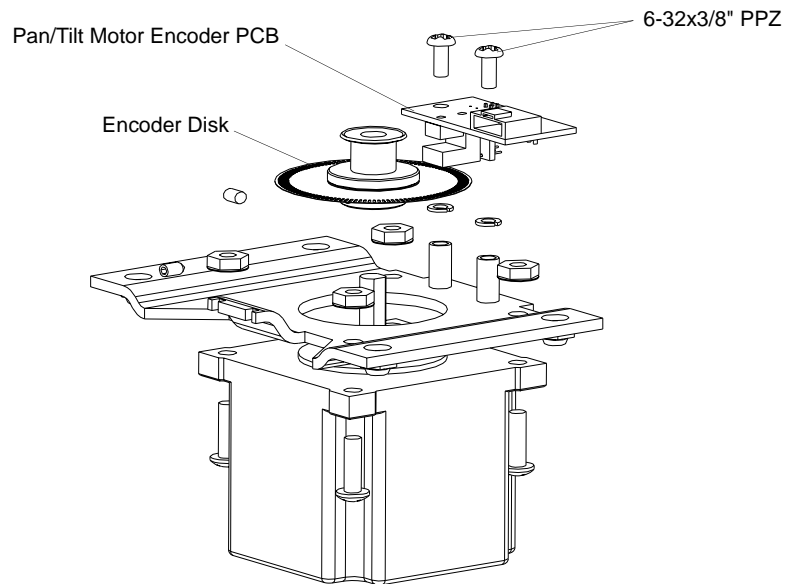

Figure 21: Pan/Tilt Motor Encoder PCB Replacement
- Step 4. As shown in Figure 21, remove two 6-32x3/8" PPZ screws and remove assembly.